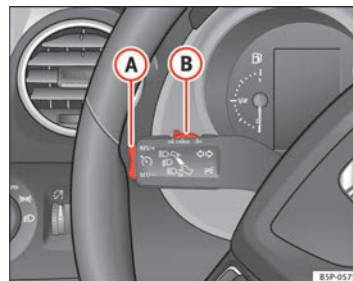

Fig. 151 Turn signal and main beam headlight lever; switch and rocker switch for the cruise control
- Press the upper part **RES/+** of the rocker switch ⇒ Fig. 151 **A** to increase the speed. The vehicle will continue to accelerate as long as you keep the rocker switch pressed. When you release the switch, the new speed is stored.
Cruise control is switched off if you reduce speed by depressing the brake pedal. You can reactivate the control by pressing once on the upper part of the rocker switch **RES/+** ⇒ Fig. 151 **(A)**.